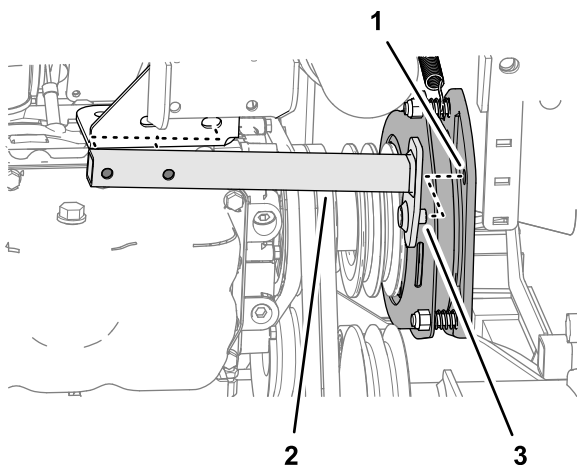

Figure 92
7. Move the anti-rotation tube rearward and remove it from the machine (Figure 92).
2. Align the pin of the anti-rotation tube with the hole in the PTO-clutch plate; refer to Figure 92 in Removing the PTO Belts (page 66).